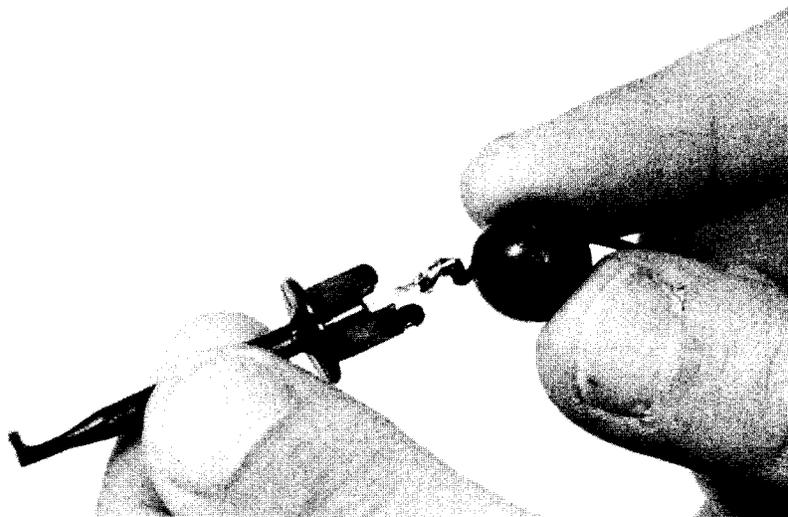

Fig. 26: Disassembly of E-Z Hook® for service.
3. Open the E-Z Hook® by pulling the ball straight off the back of the connector. (See Fig.26.)